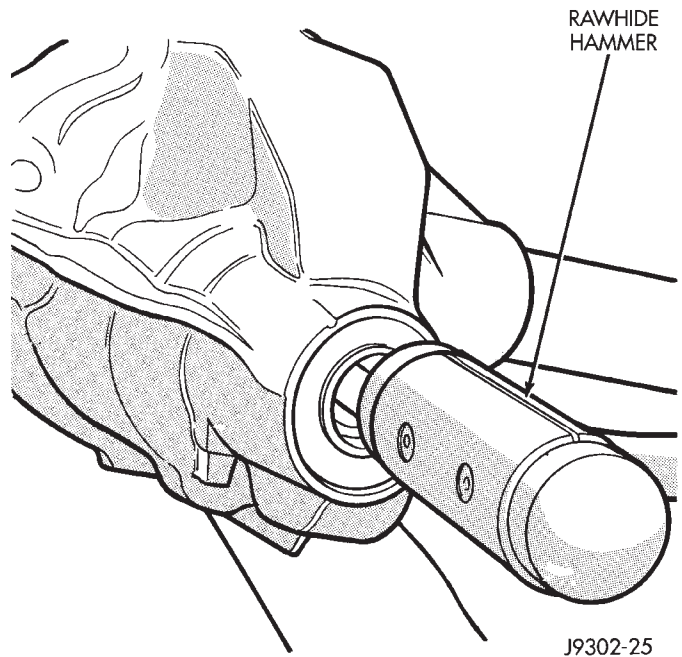

Fig. 35 Remove Pinion Gear
(6) Remove the pinion gear from housing (Fig. 35). Catch the pinion with your hand to prevent it from falling and being damaged.